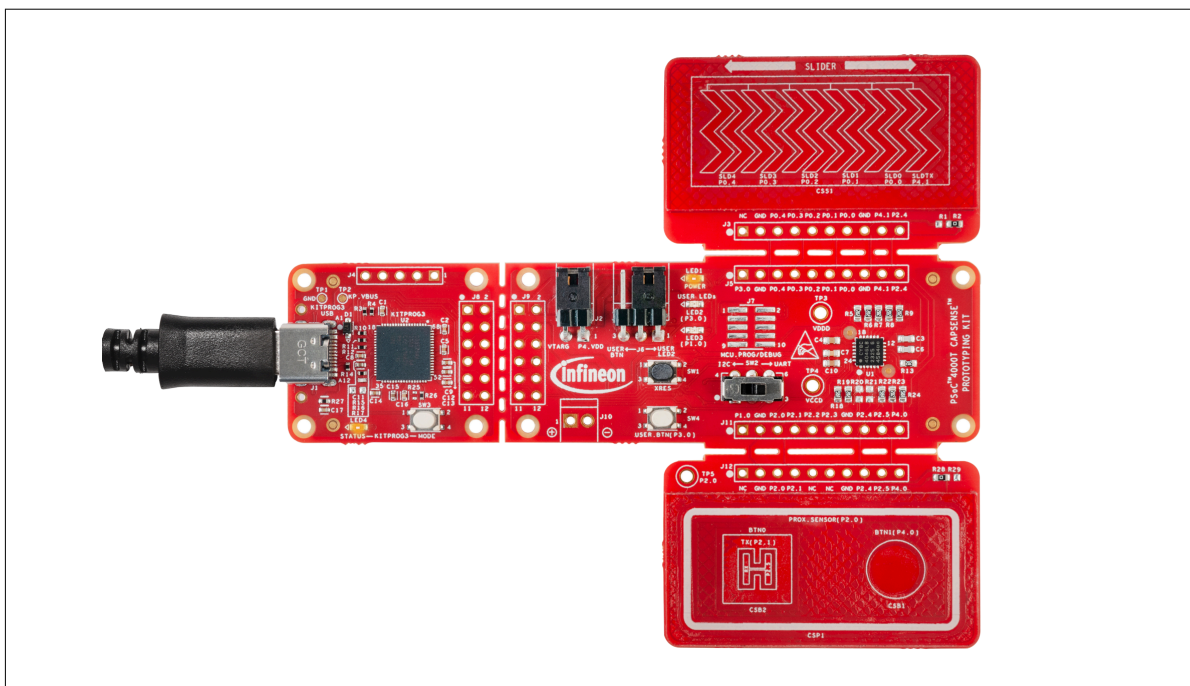

Figure 6 Connect the USB cable to the USB connector on the board
1. Connect the board to the PC using the USB cable through the KitProg3 USB connector, as shown in Figure 6.